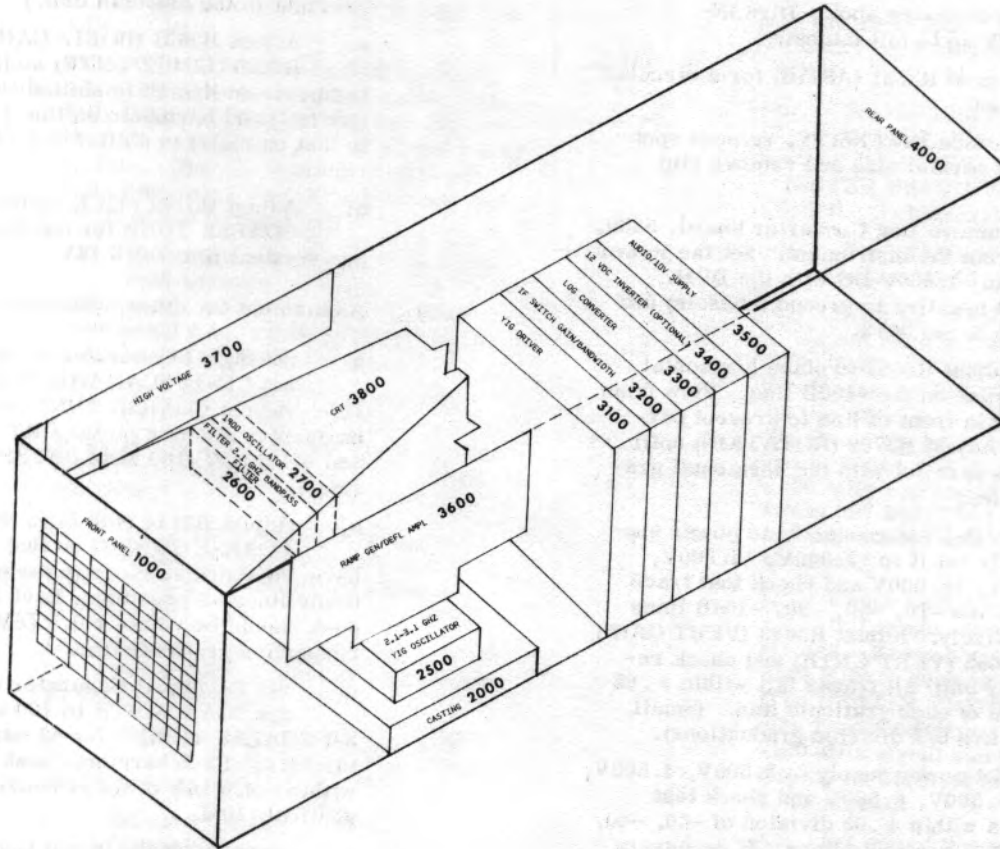

Figure 4-1. Circuit Board and Assembly Locations
4.17 Make adjustments as follows: (Refer to Figure 4-1 for circuit board and assembly locations).